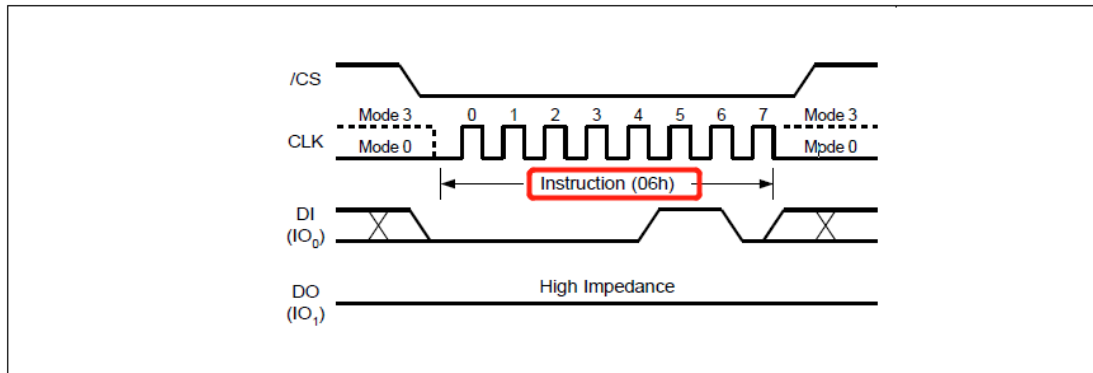

Figure 5. Write Enable Instruction for SPI Mode
The Write Enable instruction (Figure 5) sets the Write Enable Latch (WEL) bit in the Status Register to a 1. The WEL bit must be set prior to every Page Program, Quad Page Program, Sector Erase, Block Erase, Chip Erase, Write Status Register and Erase/Program Security Registers instruction. The Write Enable instruction is entered by driving /CS low, shifting the instruction code "06h" into the Data Input (DI) pin on the rising edge of CLK, and then driving /CS high.
写启用指令（图 5）将状态寄存器中的写启用门锁（WEL）位设置为 1。WEL 位必须在每个页面程序、四页程序、扇区擦除、块擦除、芯片擦除、写入状态寄存器和擦除/程序安全寄存器指令之前设置。写入启用指令是通过驱动 /CS 低位，将指令代码“06h”移动到 CLK 上升沿上的数据输入（DI）引脚，然后驱动 /CS 高位来输入的。